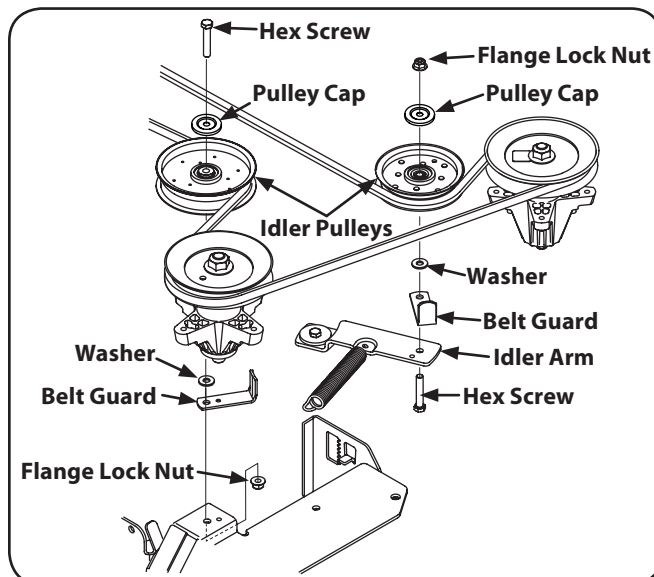

Figure 7-9
2. Remove the hex washer screws securing the belt covers to the deck. See Figure 7-9.
5. Install the new belt around the spindle pulleys as shown and reinstall the belt covers. See Figure 7-9.